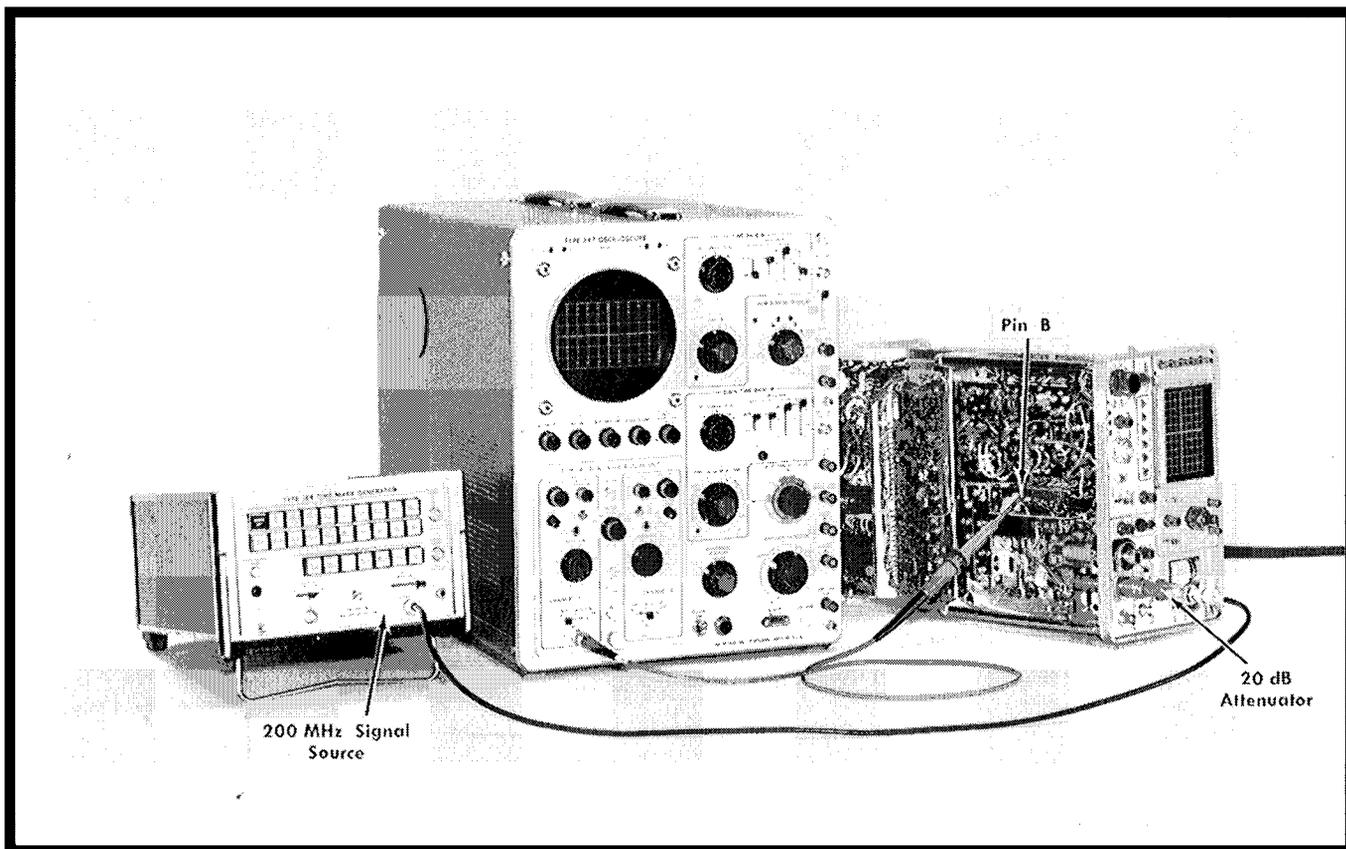

Fig. 6-23. Test equipment setup to adjust IF amplifier and the resolution bandwidth.
a. Equipment setup is shown in Fig. 6-23.